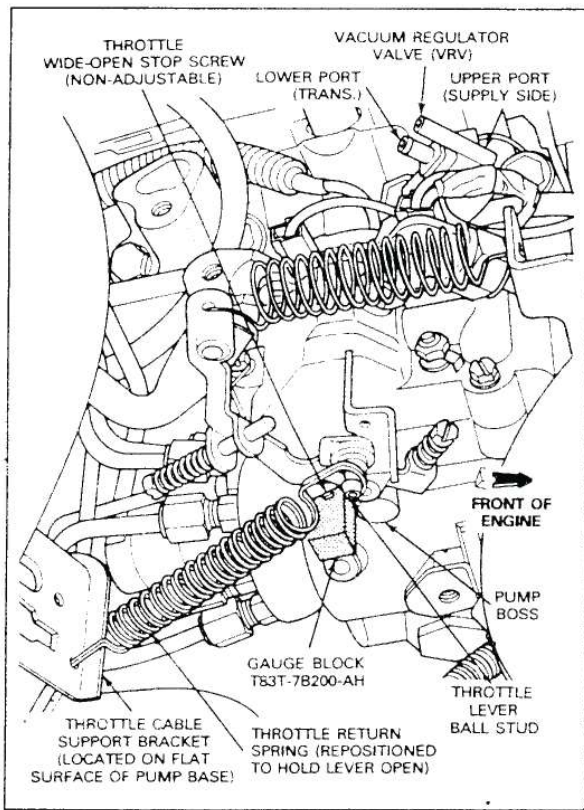

FIG. 7 VRV Gauge Block Installation
6. Apply 20 inches minimum of vacuum to the VRV and maintain. **It will be necessary to continually pump the vacuum up as it bleeds off (this is normal). Cycle the throttle lever 5 times from idle to WOT with vacuum applied.** Insert the gauge block, T83T-7B200-AH (0.515 inch), between the pump boss and the throttle wide-open stop (Fig. 7). The throttle return spring (F-Series), as repositioned in step 3 below, will hold the throttle lever stop against the gauge block (Hold throttle lever open on Econoline by other means). **The vacuum gauge attached to the lower port of the VRV should indicate 6-8 inches of vacuum. If the vacuum reading is not correct, adjust the VRV to achieve a reading of 7 inches (± .5) of vacuum.**